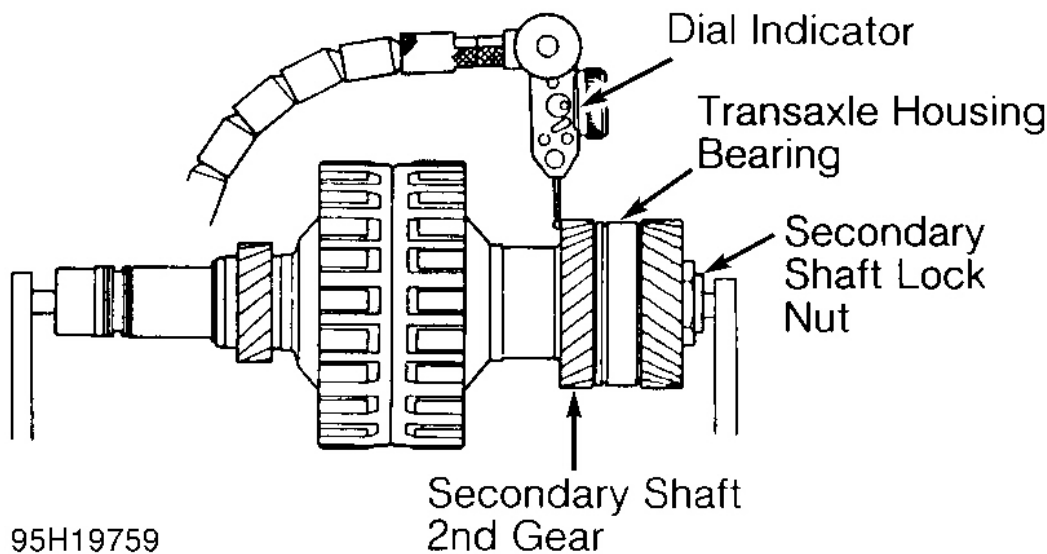

Fig. 25: Checking Secondary Shaft 2nd Gear Clearance
2. Remove transaxle housing bearing for secondary shaft from transaxle housing. Install transaxle housing bearing for secondary shaft on secondary shaft. Using press, press secondary shaft idler gear on secondary shaft. Install spring washer and used secondary shaft lock nut on secondary shaft. See **Fig. 25**.